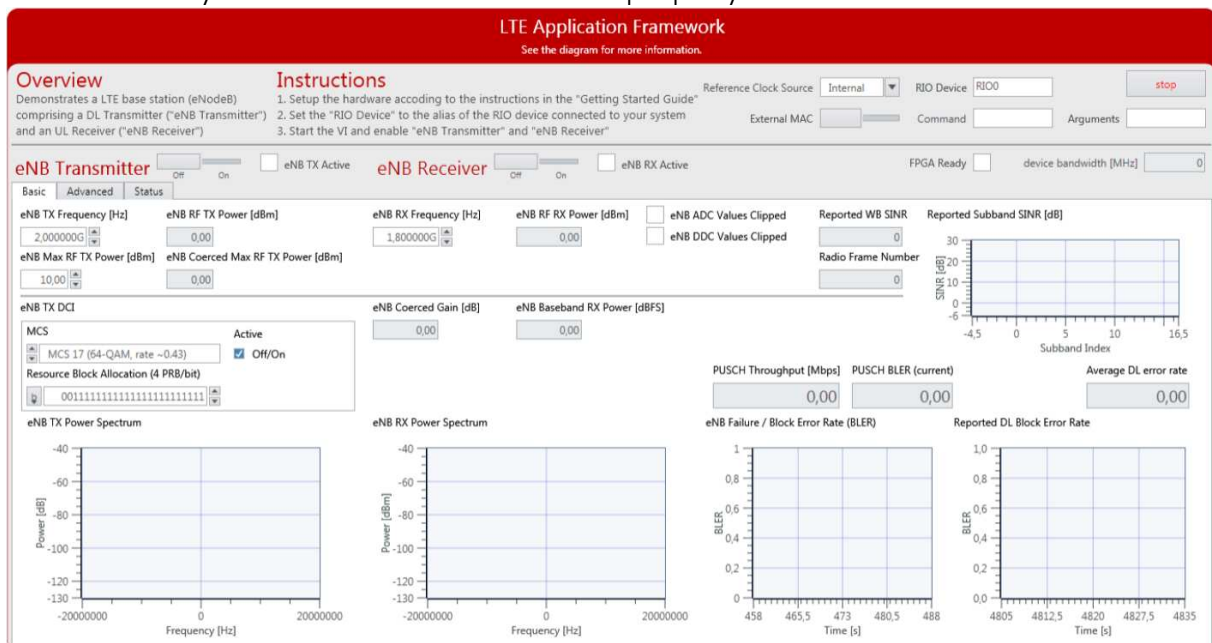

Figure 13 Front Panel of LTE Host eNodeB.gvi
2. Create a RF connection as shown in Figure 13: